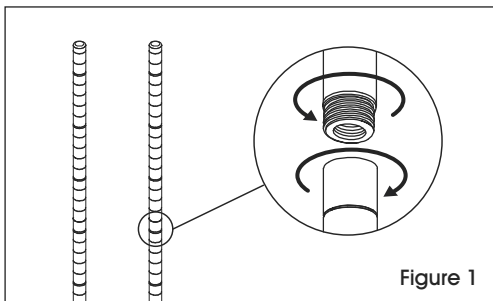

Figure 1
1. Connect 2-piece posts together by screwing post with connector into other post. (See Figure 1)